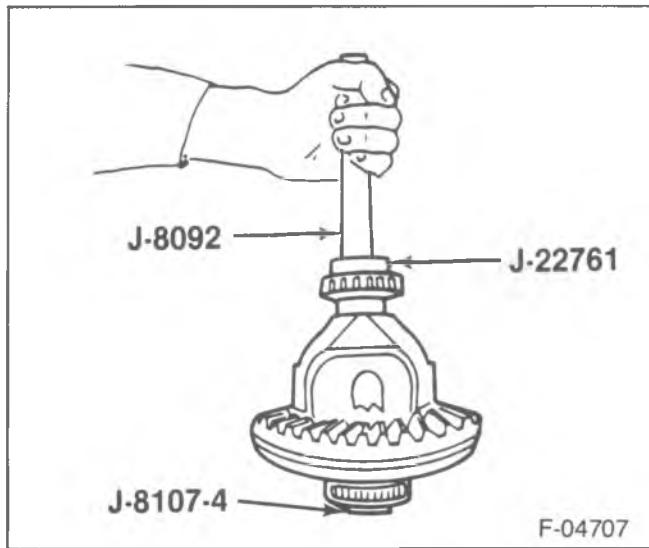

Figure 19—Differential Bearing Installation
- Differential side bearings (8) using J-22761, J-8107-4 and J-8092 (figure 19).
- Differential case (24) to the axle housing. Refer to "Side Bearing Preload Adjustment" in this section.